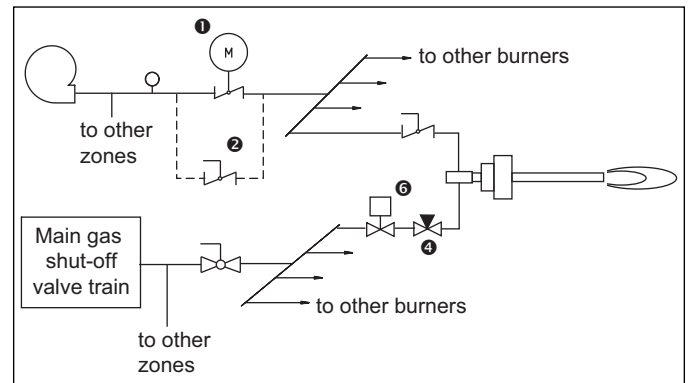

Figure 3.3. Gas Pulse Control. Constant Air
This control is used to regulate the timing of a sequential activation of the gas ON/OFF solenoid valves ⑥ located at each burner. This control requires individual adjustment of the control system times. See Figure 3.3.